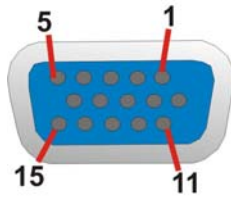

Figure 4-24: VGA Connector
- CN Pinouts:** See Figure 4-24 and Table 4-25